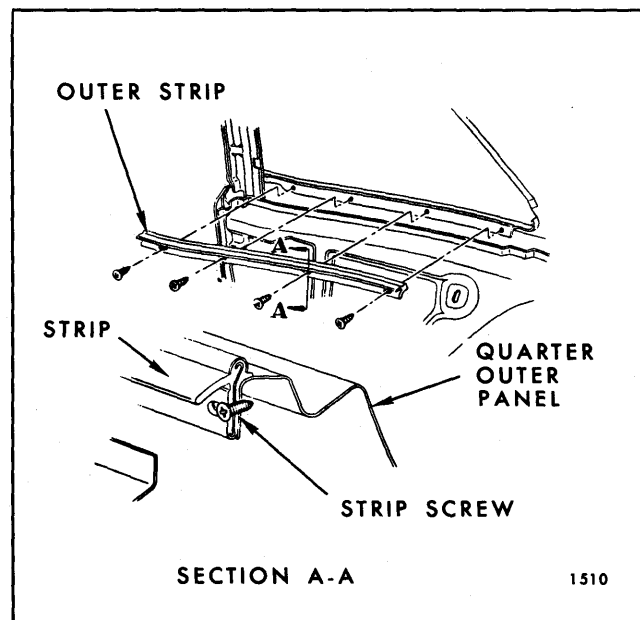

Fig. 7-10—Rear Quarter Window Outer Strip Assembly
4. On styles with screw retained strip assemblies, remove screws securing outer strip to rear quarter outer panel return flange and remove strip from body (see Fig. 7-10). On styles with clip retained strip assemblies, refer to index of "Door" section for removal procedure.